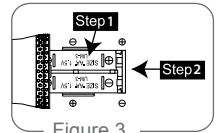

Figure 3
3. Insert 2 pieces of UM-3 1.5 V batteries, remember to match correct polarity. (step1 of Figure3)
4. Push the battery tray back. (step2 of Figure3)